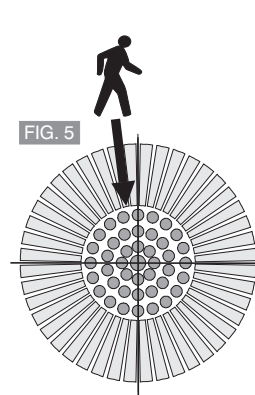
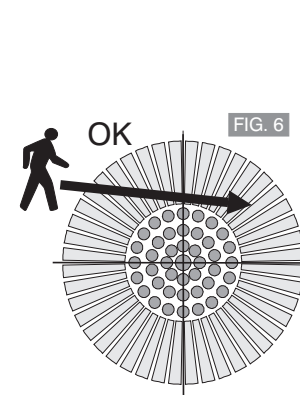

FIG. 5
FIG. 6
- Prior to mounting, keep in mind that the motion sensor is more sensitive to the motion, which is across the detection field (FIG. 6) and less sensitive to the motion, which moves directly towards the detector (FIG. 5).